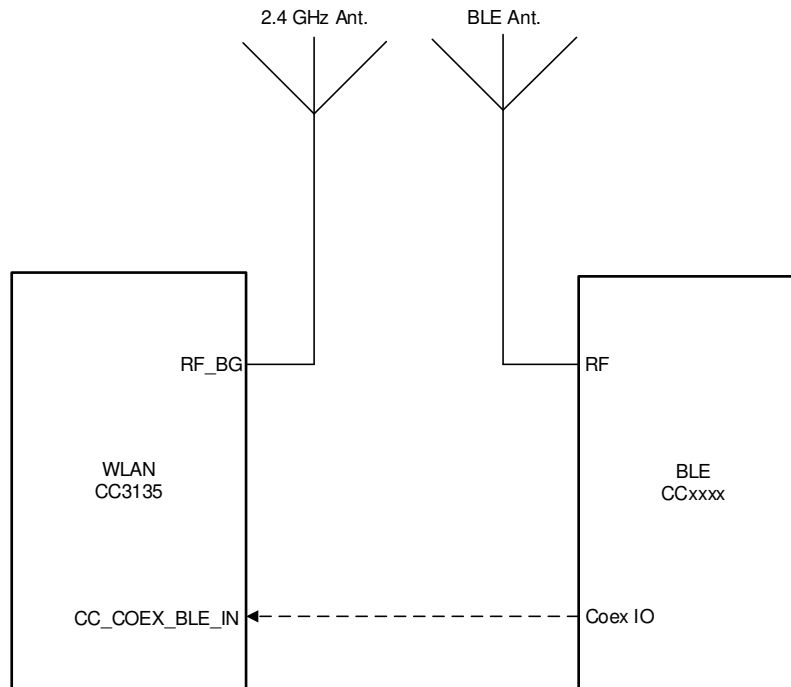

图 9-3. Dual-Antenna Coexistence Mode Block Diagram
- 2.4GHz Wi-Fi Band (see 图 9-3)
图 9-3 shows the dual antenna implementation of a complete Bluetooth® low energy and WLAN coexistence network with the WLAN operating on either a 2.4- or a 5GHz band. Note in this implementation no Coex switch is required and only a single GPIO from the BLE device to the CC3135 device is required.